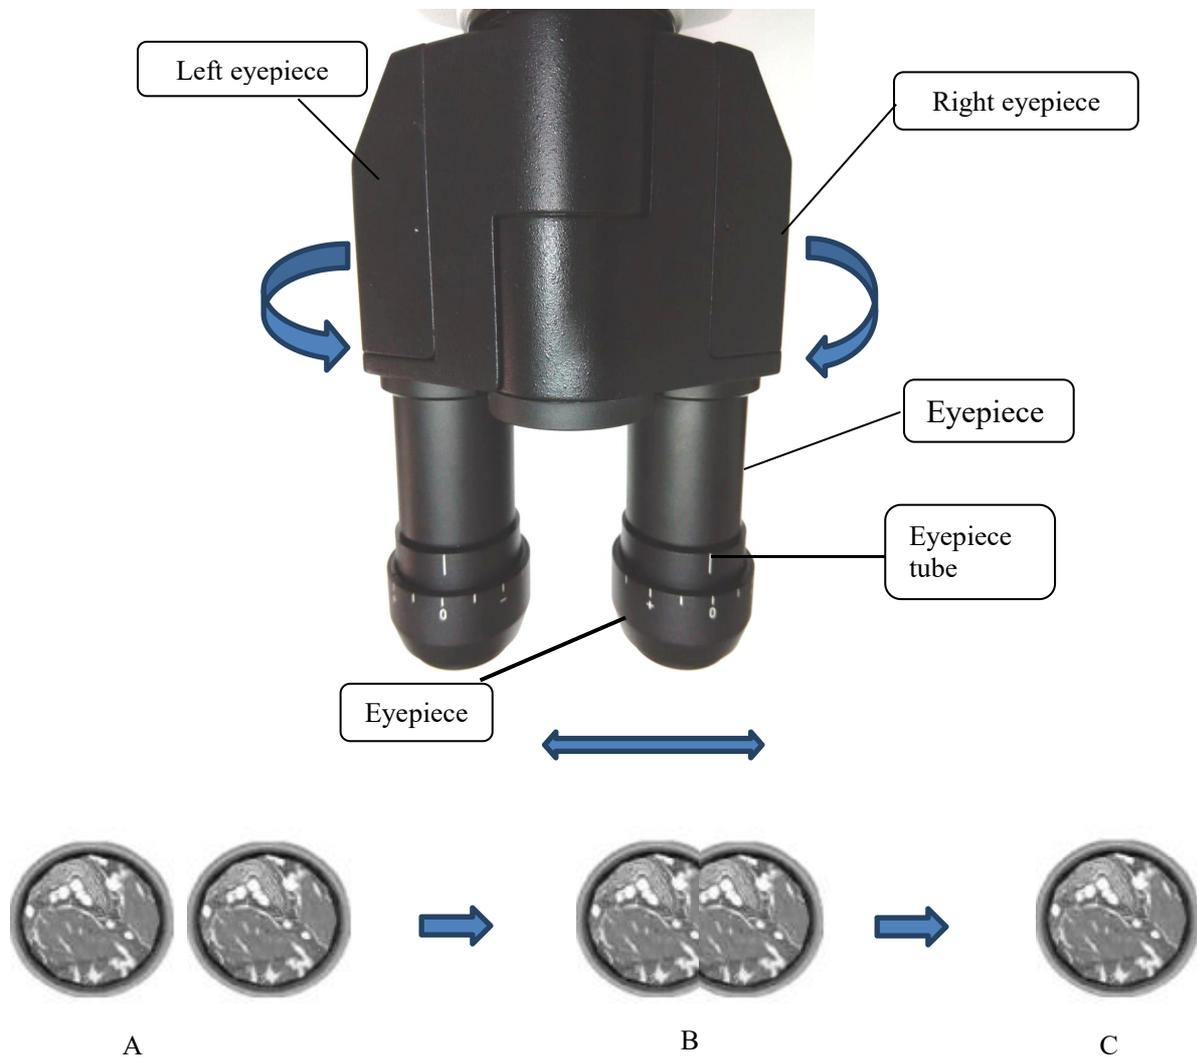

Figure 06
- A) transfer the eyepiece on the left and right sides to the 0 pairs of lines according to (Figure 06).
- A) transfer the left eyepiece tube and right eyepiece tube to the 0 pairs of lines according to (Figure 06). move the specimen to the light path.